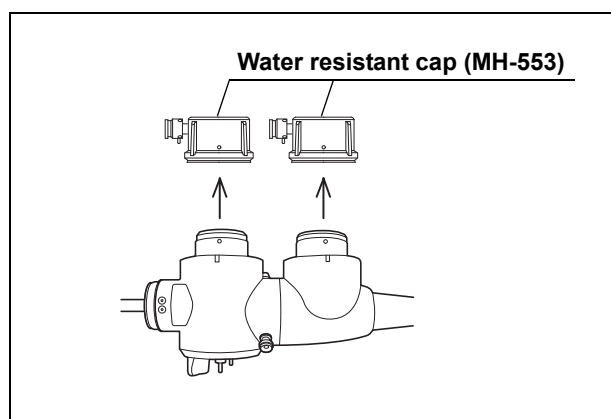

Figure 7.41
2. Remove the water-resistant caps before ethylene oxide gas sterilization (see Figure 7.41).